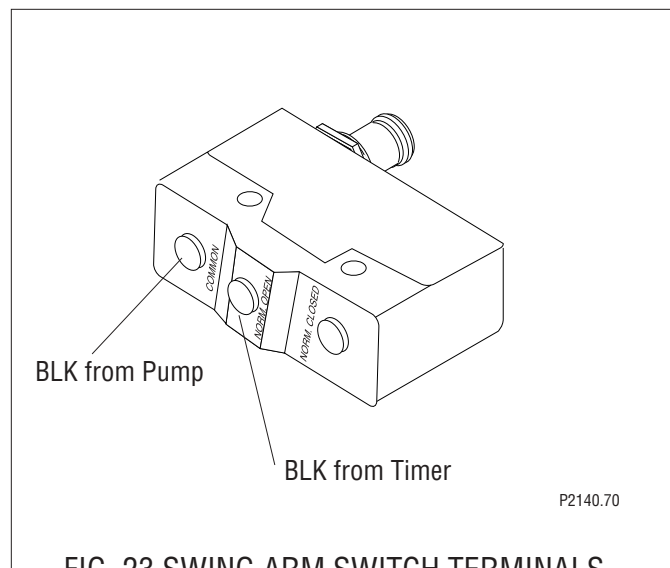

FIG. 23 SWING ARM SWITCH TERMINALS
2. Install new switch and reconnect the wires to the switch. See Fig. 23 for reconnecting the wires.